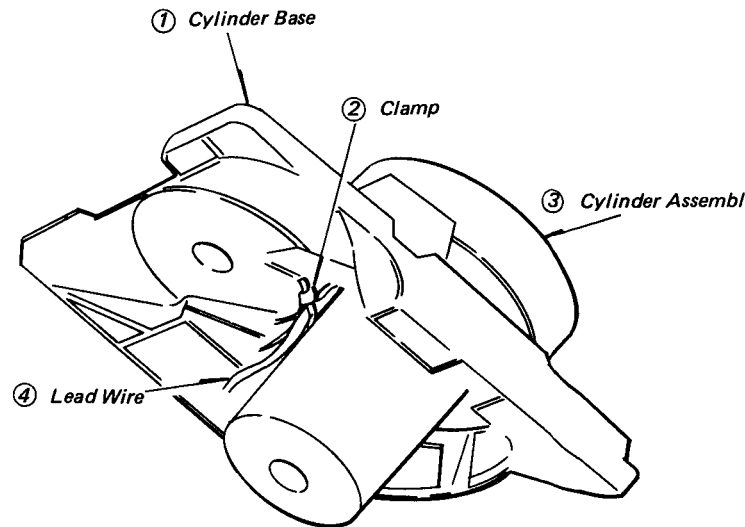

Fig. 5-110 How to Slacken the Lead Wires
33. Replacing the Fully Width Erase Head Assembly (Figs. 5-110, 5-111, 5-112)